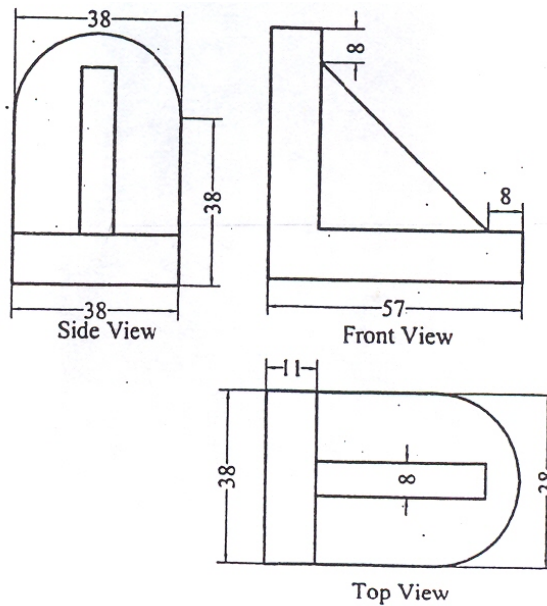

Fig. 2
5. Draw the isometric view of the object shown in Fig. 2.